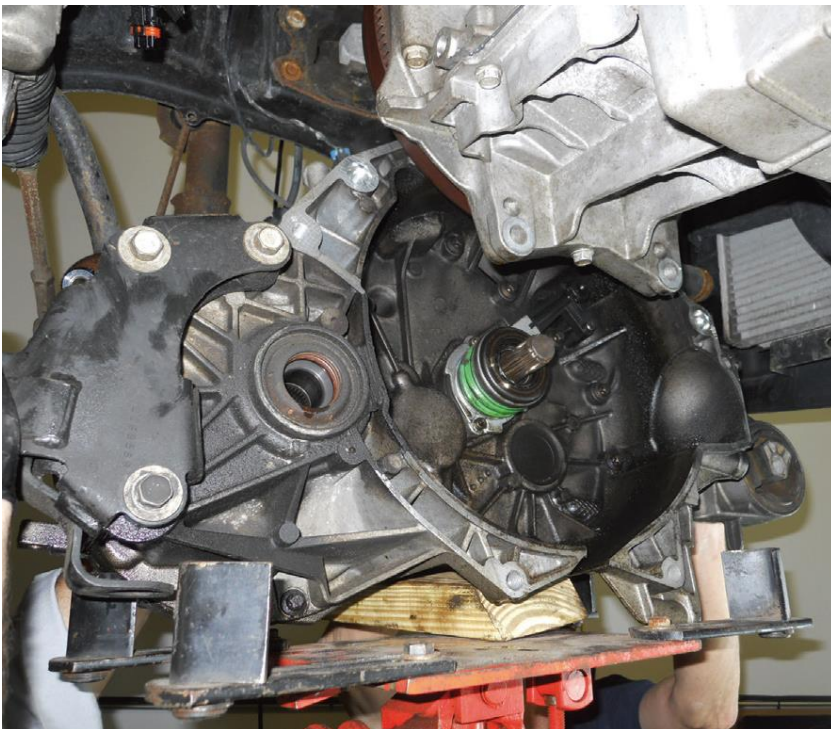

Figure 9. A transaxle being removed from underneath a vehicle and being supported by a transmission jack.
STEP 7 Position a transmission jack to support the transaxle, remove any transaxle mounts or supports, remove the remaining clutch housing bolts, and install the second guide pin (if not already installed). Slide the transaxle away from the engine to clear the clutch and right driveshaft. Figure 9.